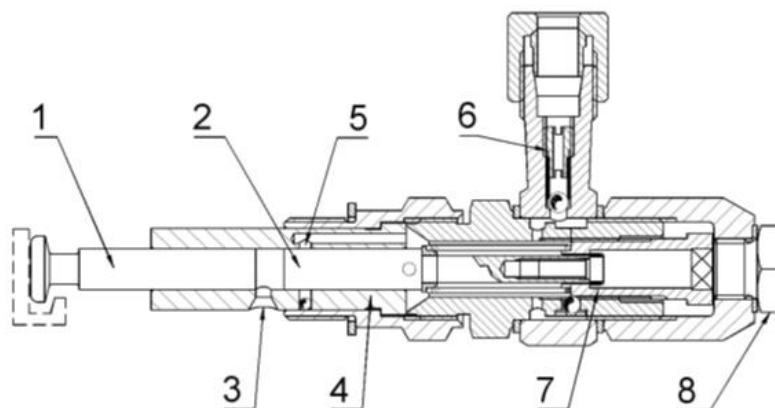

Fig. 2
**PUMPING ELEMENT OPERATION (FIG 2)**
The pumping element 1, whose stroke is determined by the eccentricity of the bush 12 in Fig. 1, is shown in Fig. 2 during the suction phase.
ELIMINATION:	Wait until the grease stops leaking without blowholes. If this is not sufficient, disassemble the pumping element, clean it and make sure all the parts can slide. Reassemble it as shown in fig.2.
CAUSES:	Parts 1-2-4 are worn out (fig. 2)